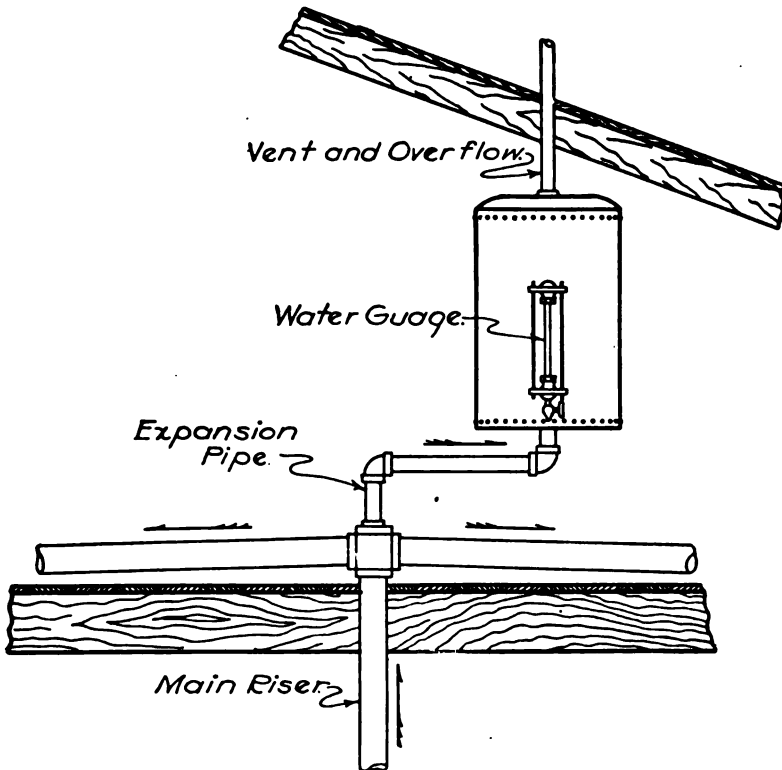

Fig. 76.—Expansion Tank Connection—Vertical for Overhead System.
A. Fig. 76 shows a method of connecting the tank vertically.